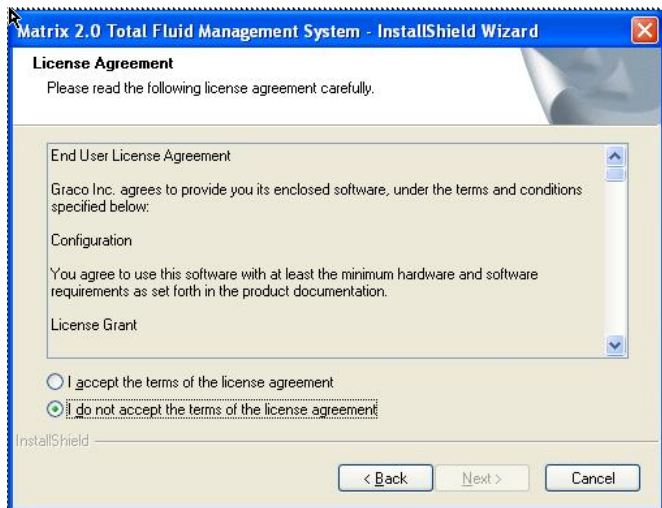

FIG. 13 Setup Path 1 - License Agreement
- Review the End User License Agreement (FIG. 13). If acceptable, select "I accept..." and click **Next**.